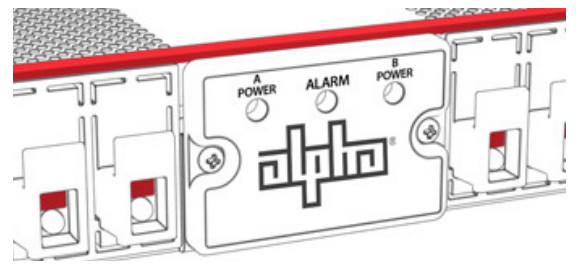

Figure 1. LED display
- LED indicators (panels with LED display; Figure 1)